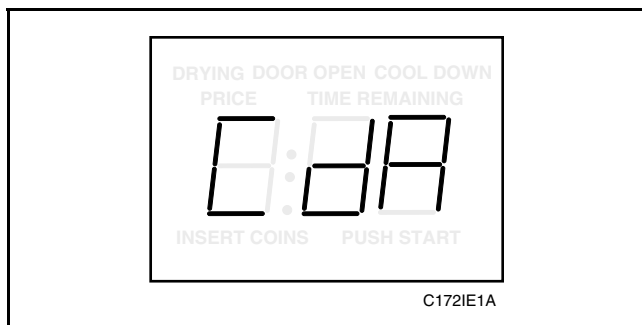

Figure 86
3. Press the LOW TEMP (+) pad **or** the NO HEAT (-) pad to scroll through the programmable options until “CdA” appears in the VFD, *Figure 86*.